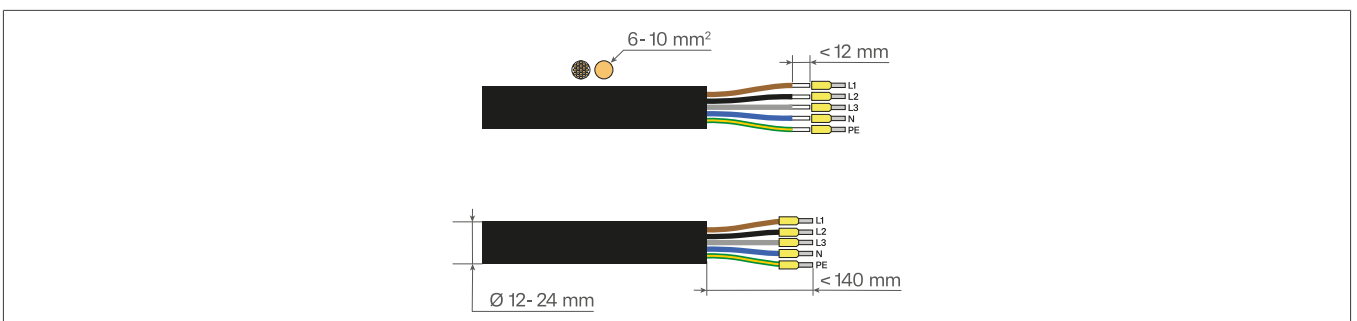

Fig. 28: Cable to the inverter
- 1 Strip the sheath and cores of the cable, flexible or rigid (see Fig. 28).